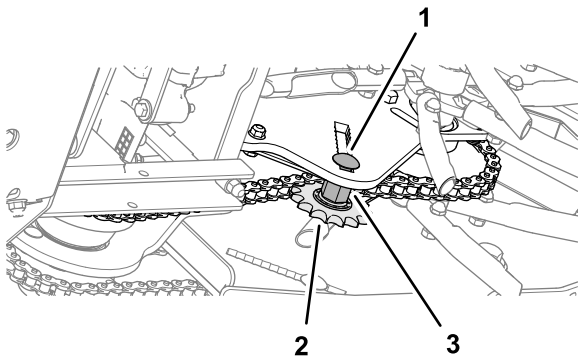

Figure 62
- To adjust the chain tension, loosen the idler bolt and threaded spacer, and push up on the sprocket to tighten the chain (Figure 62).